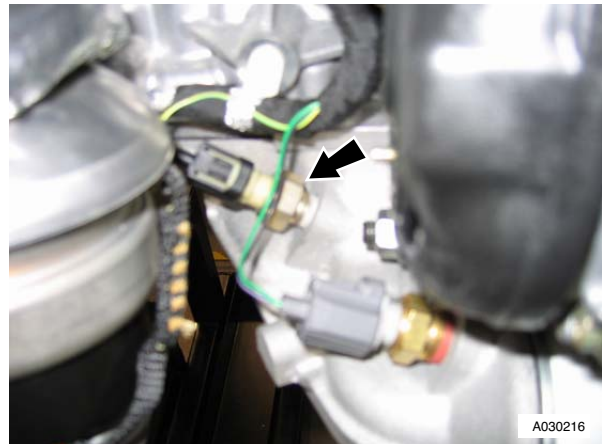

Figure 5
- Disconnect multiplug from oil pressure sensor (see Figure 5).